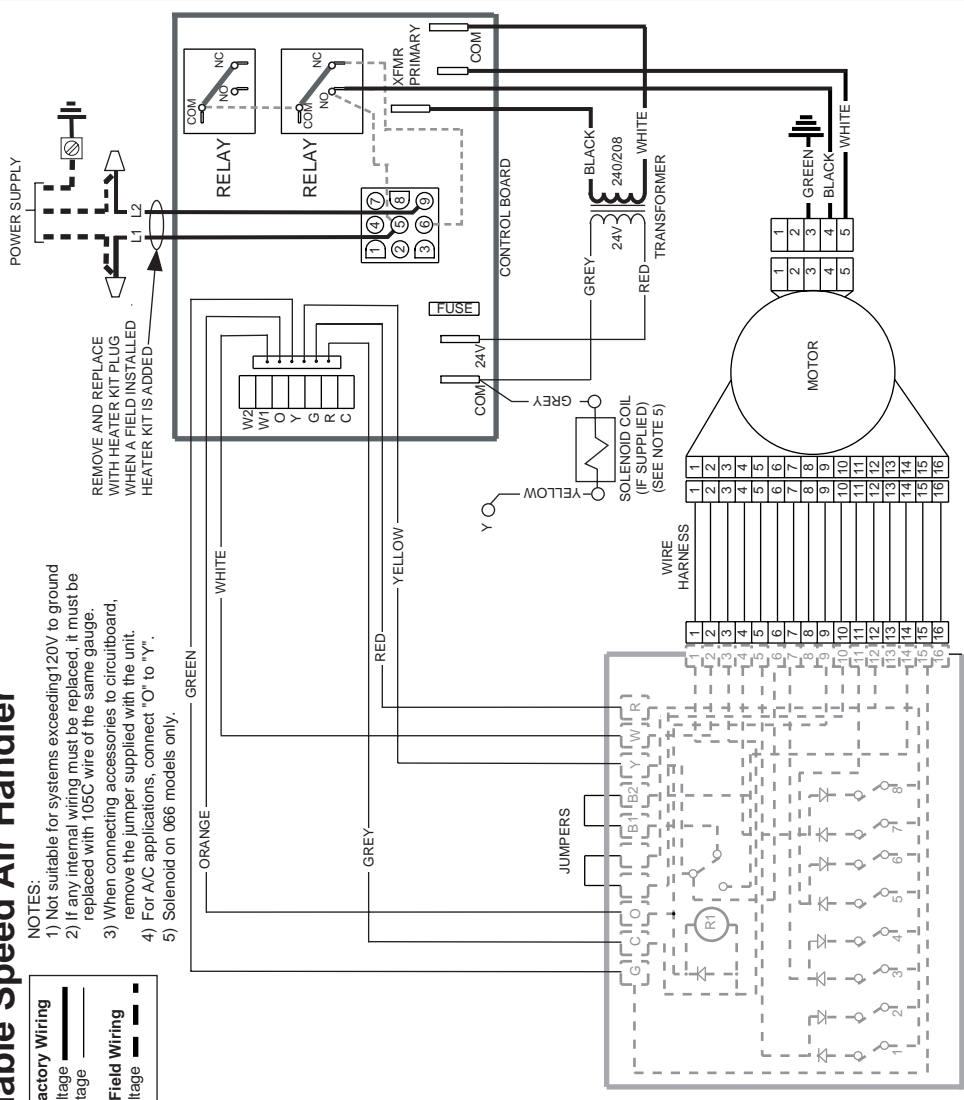

Figure 2. Variable Speed Air Handler with Control Board Wiring Diagram
9. Connect the low voltage wires to the variable speed blower board as shown in the wiring diagram. See **Figure 2**.
12. Connect the black and white wire to the air handler control board as shown in the wiring diagram. See **Figure 2**.